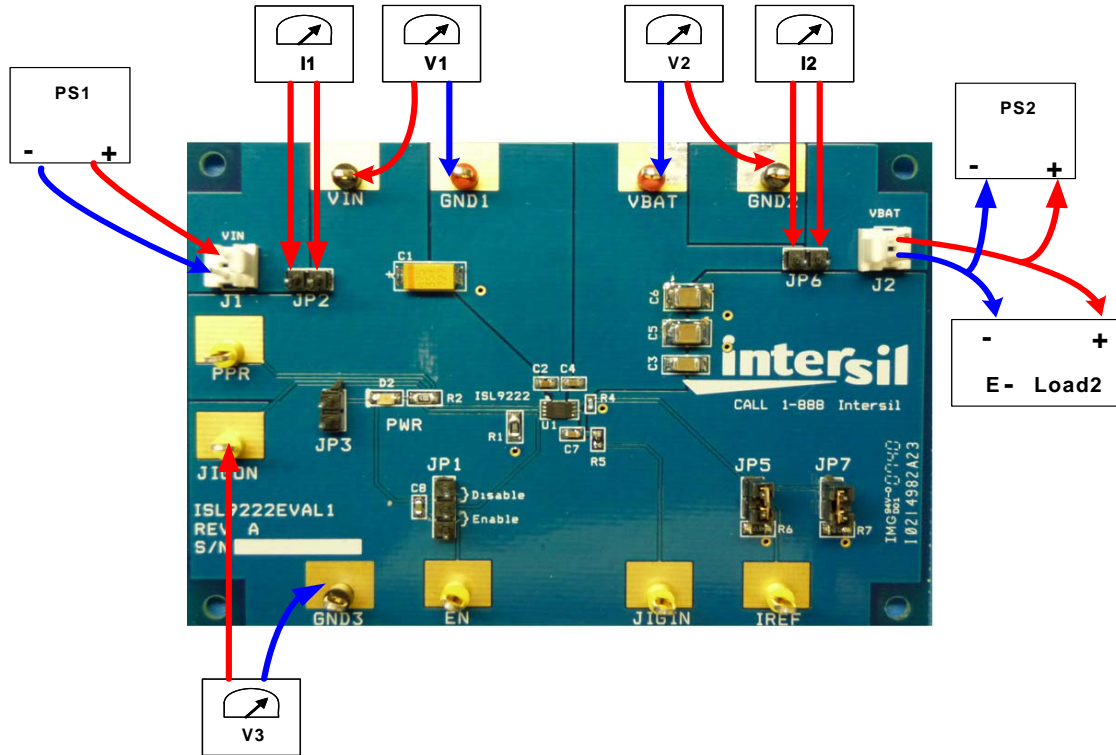

FIGURE 1. CONNECTION OF EQUIPMENT
Quick Setup Guide (Refer to Figure 1)
3. Connect a current meter to JP6 as shown in Figure 1
JP2 - A shunt installed on JP1 connects the input source from connector J1 to the circuit if input current measurement is not needed. The shunt can be replaced by a current meter if input current measurement is needed, as shown in Figure 1.